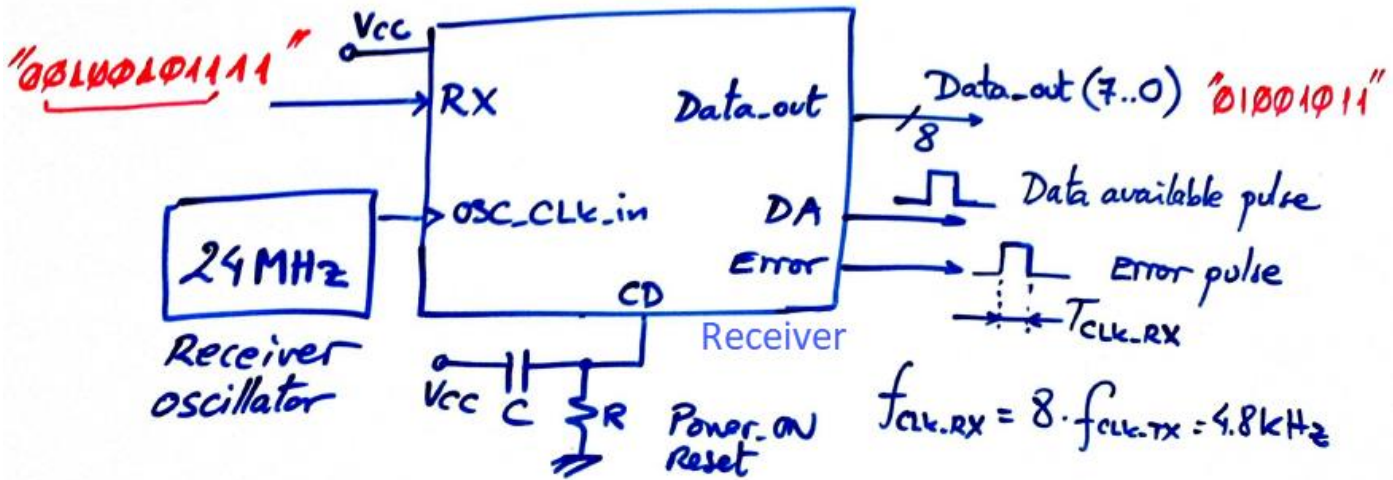
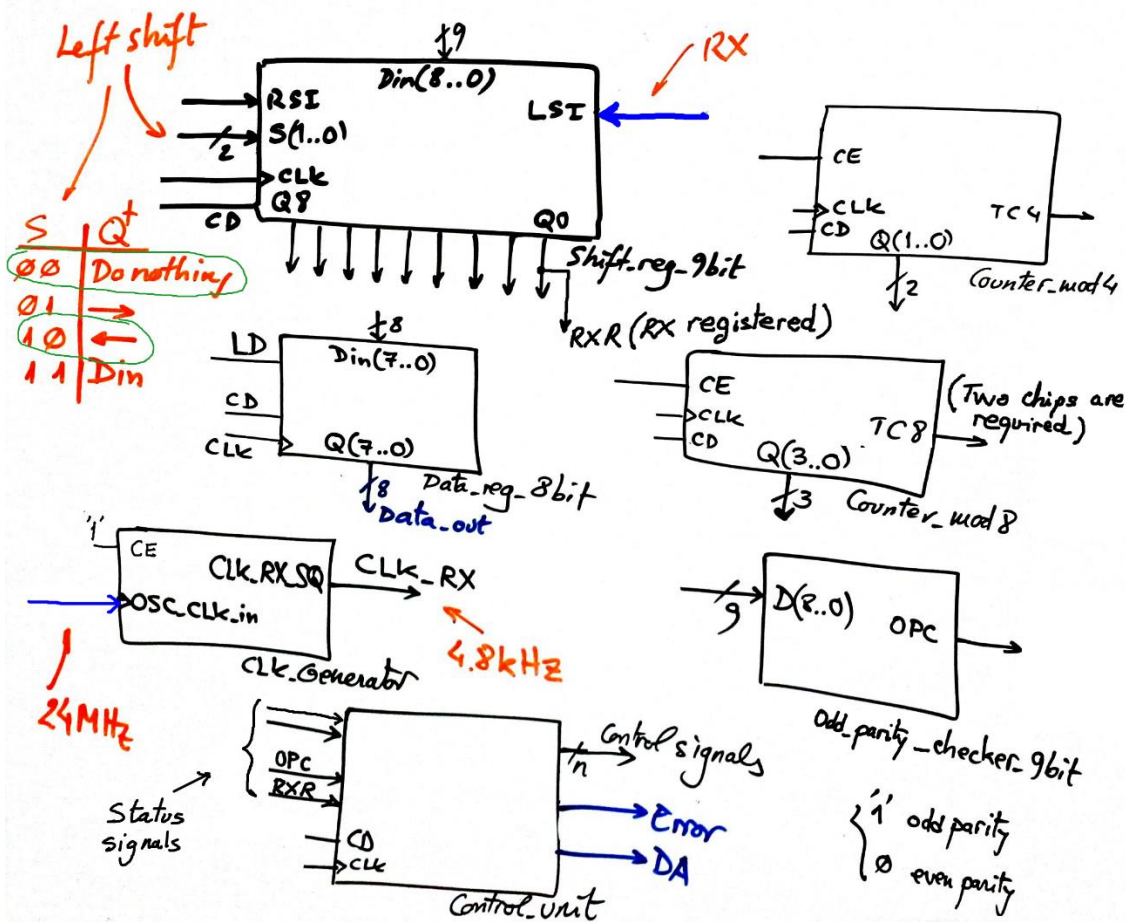

Fig. 3
Fig. 4
The symbol of the receiver subsystem is represented in Fig. 3. A pulse DA (data available) is generated once the sequence has been decoded and saved at the *Data_out* vector.
Fig. 4 gives you an idea of the components that may be included in the dedicated processor datapath. Basically, counters and data and shift registers and also the 9-bit parity checker.
1. Invent an internal architecture for the *CLK_Generator* in Fig. 4 following a plan C2 based on *T_FF* and *freq_div_N* components where *N* is an adjustable parameter. (1p)
- Invent a datapath for the *Receiver* in Fig. 3 using components like in Fig. 4 or others. Explain your circuit and justify your signals and connections. (1.5p)